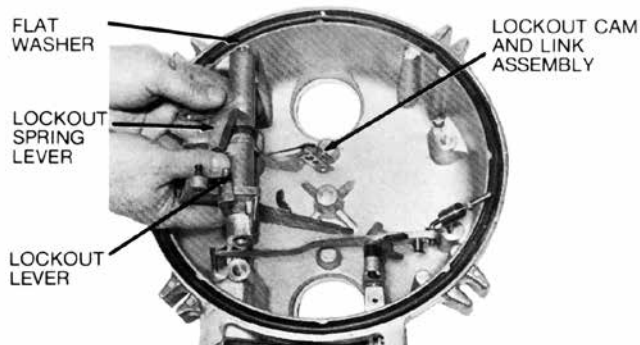

Figure 42. Head mechanism parts being removed
9. Pull the operating lever and remove the manual trip lever. Then lift out the lockout cam and link assembly, and lockout lever. See Figure 42.